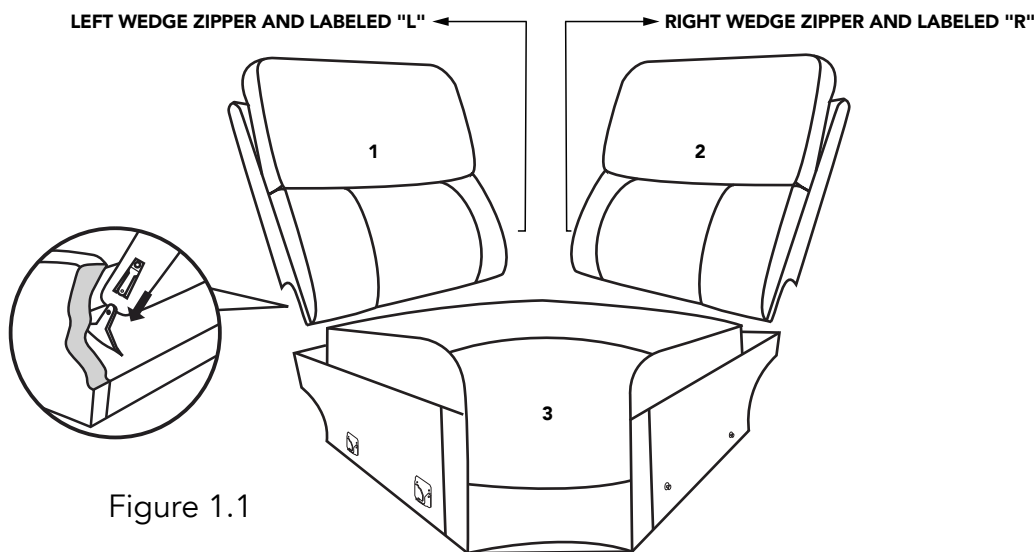

Figure 1.1
- 1 Attach the Backs (1) and (2) to the Seat (3). Ensure the latches fit well. (See Figure 1.1)**